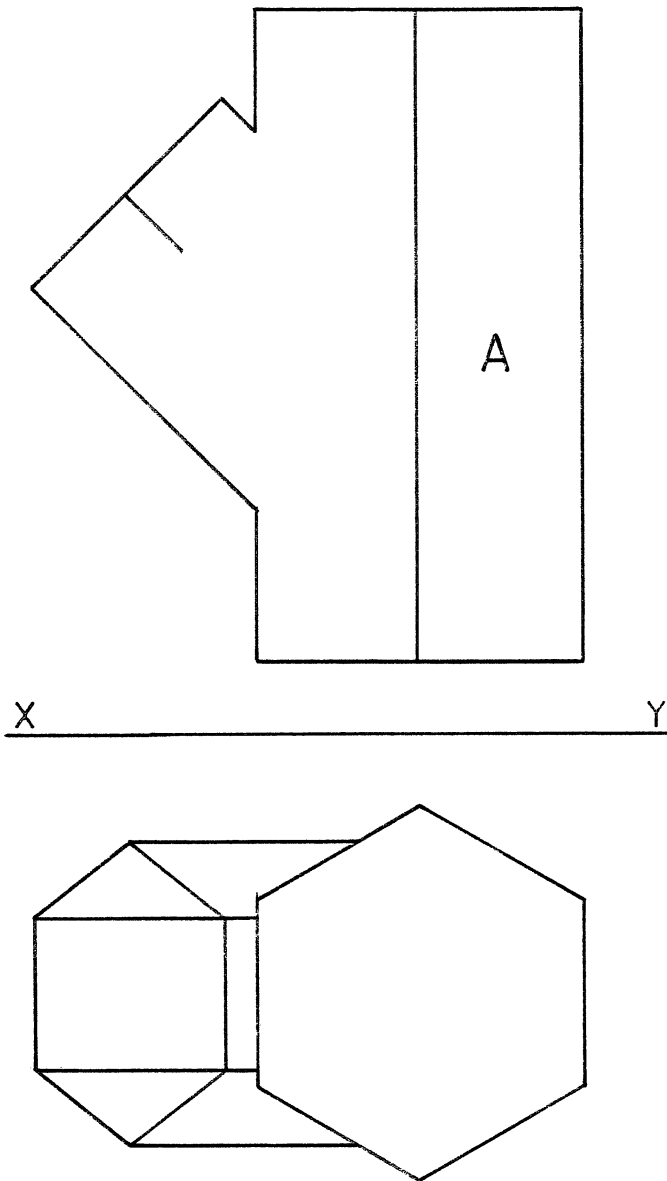

FIG. 5
Figure 5 shows the incompleted front view as well as a top view of a hexagonal branch pipe penetrating a hexagonal main pipe (A).